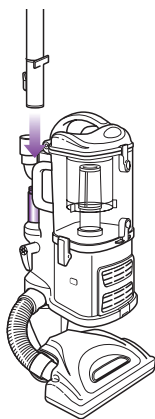

Fig. 9
- 3 Attach the end of the extension wand to the tube on the back of the *Lift-Away™* canister until it clicks into place. (Fig. 9)